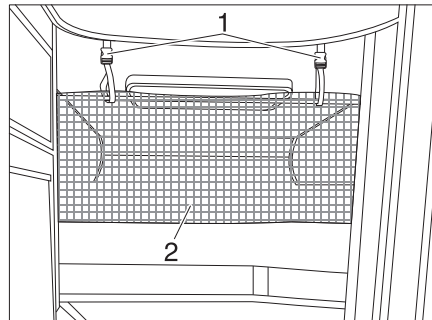

Fig. 160 Safety net
The safety net (Fig. 160,2) is stored as standard between the mattress and slatted frame. Do not use the safety net until the person is already in bed.
- Fasten the retaining straps (Fig. 160,1) to the holders on the ceiling.